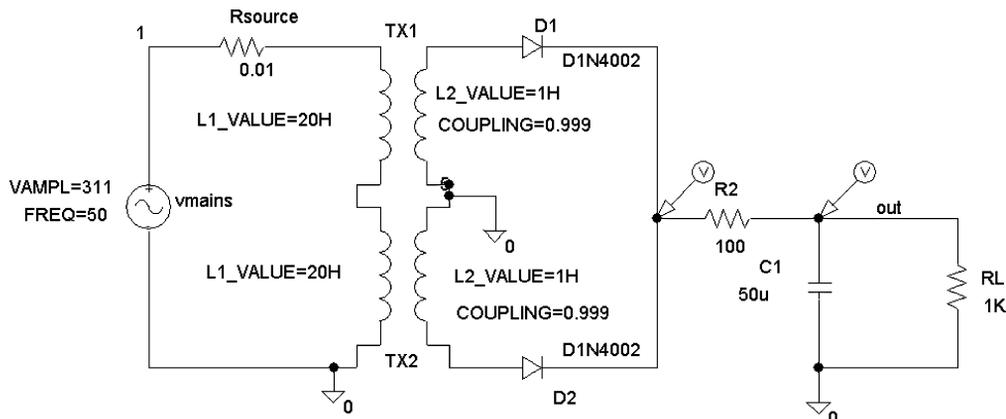

FIGURE 6.46: Rectification
- (5) In power factor correction, verify the relationship between apparent power (VA), real power (Watts), and reactive power (VARs) as $VA = \sqrt{P^2 + Q^2}$.
- (6) Investigate the power supply in Fig. 6.46.